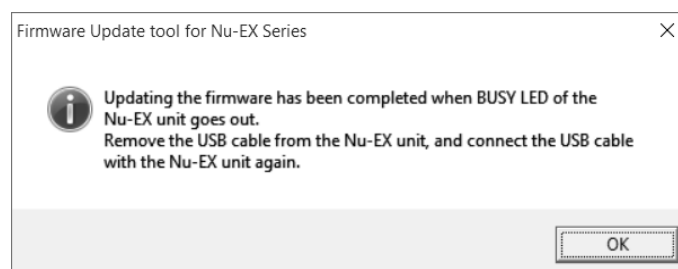

Figure 1.5.6 Completing Firmware Update
5. The dialog shown in Figure 1.5.6 appears. Check the LED of the Nu-series. When POWER LED (Green light) lights up, and BUSY LED (Orange light) turn off, the update has been completed. Turn off the power of the Nu-EX series and turn it on again. (Remove the USB cable from the Nu-EX series, and connect the USB cable with the Nu-EX series again.)